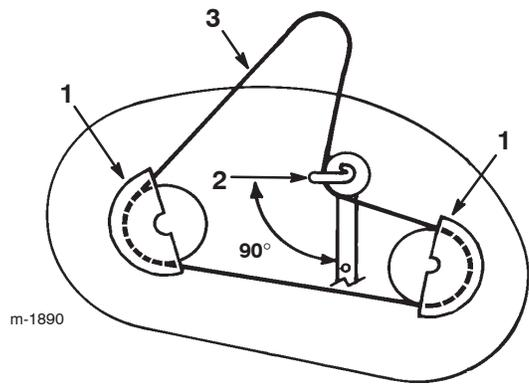

Figure 47
- Remove the pulley cover mounting screws and pulley covers from both blade pulleys (Fig. 47).
- Loosen, but do not remove, the bolt and nut that secures the idler pulley and the belt guide (Fig. 47).
- Position the idler pulley belt guide so that it points toward the left, 90° to the idler arm (Fig. 47).
- Install the left and right pulley covers with the mounting screws (Fig. 47).